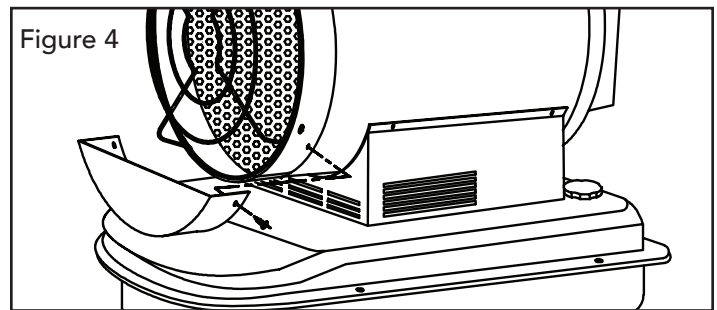

Figure 4
2. Line up holes on heat shield with holes in shell ring. Attach with screws removed in step 1 (see Figures 4 and 5).